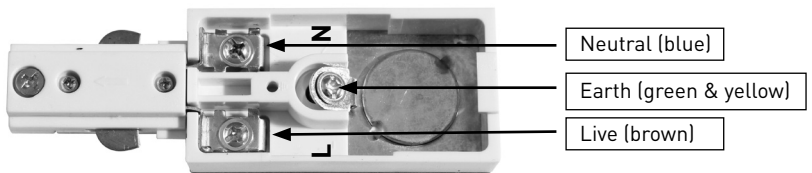

Fig 2
- Wire the end cap and ensure the correct polarity is observed. Live (brown), Neutral (blue) and Earth (green and yellow) (see Fig 2)